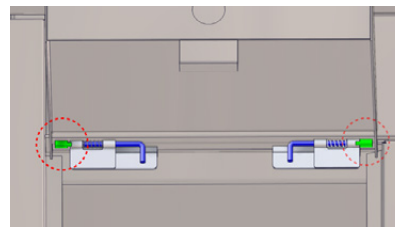

Fig. 27: Left - right hinge leaves
4. To reattach the door, push in the hinge pins and fit the top corners of the knee panel door onto the left and right hinge leaves (Fig. 27 - circled in red). When the door is refitted, release the hinge pins to secure the door to the sink.